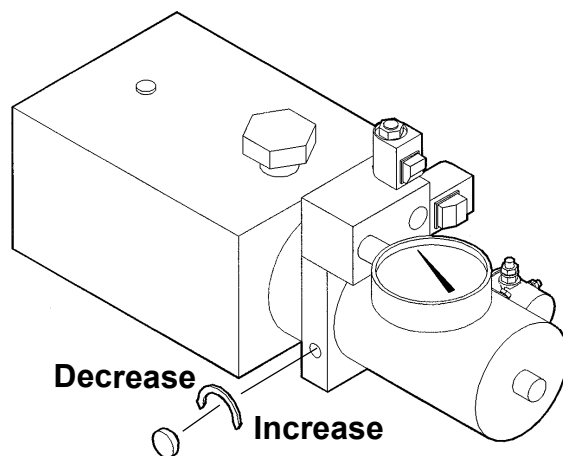

FIGURE 2
4. With Platform on the ground, remove the pressure hose and fitting from the Pump and replace it with a 0-3000 PSI Pressure Gauge. Hold the switch in the "UP" position. Adjust the Relief Valve on the side of the Pump until the gauge shows 2800 to 3000 PSI . (**See Fig. 2**)